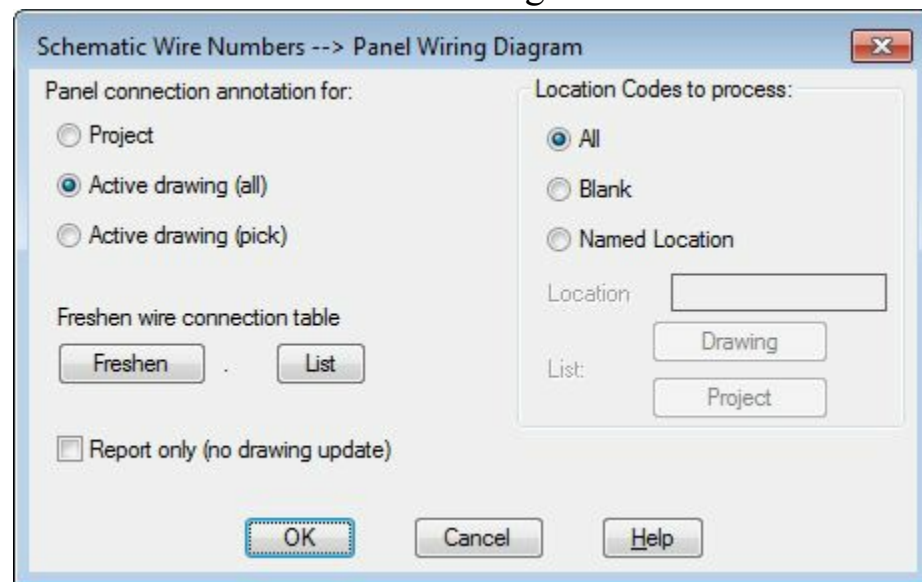

Figure-19. Schematic Wire Number dialog box
- Click on the **Wire Annotation** tool from the **Insert Component Footprints** panel. The **Schematic Wire Number --> Panel Wiring Diagram** dialog box will be displayed; refer to Figure-19.